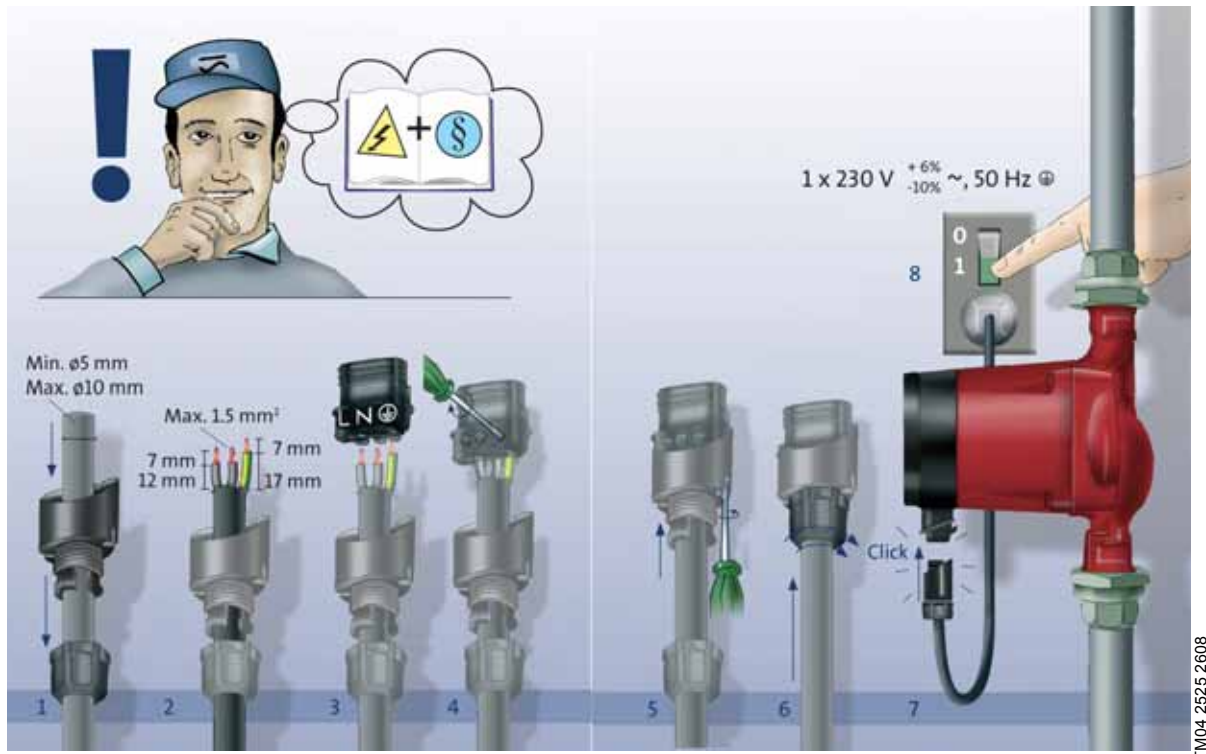

Fig. 6 Electrical connection
- Connect the pump to the mains with the plug supplied with the pump as shown in fig. 6, steps 1 to 8.